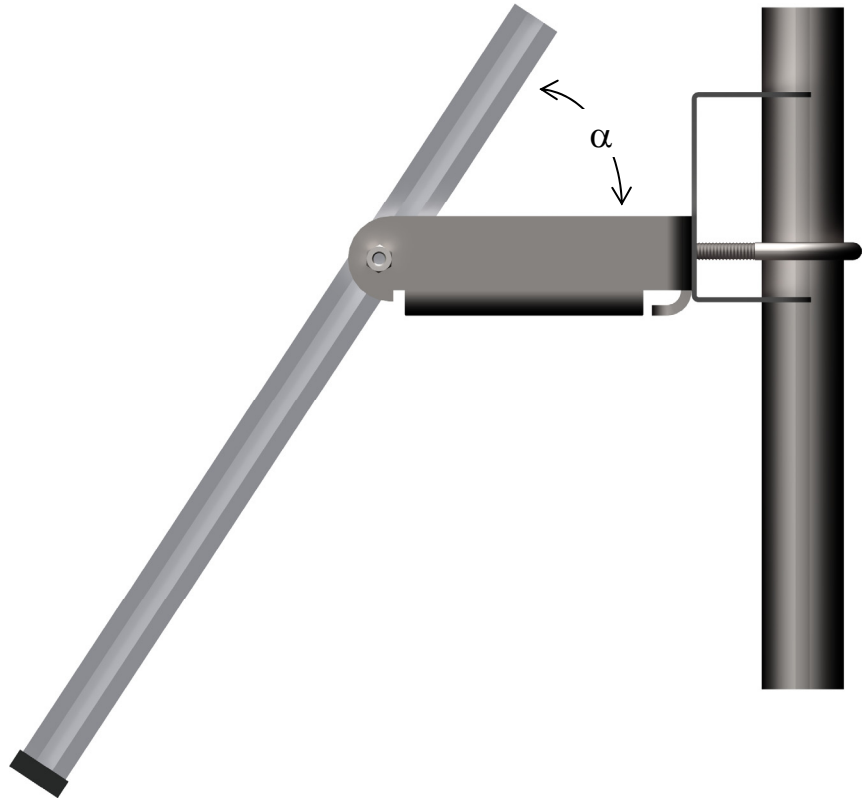

*FIGURE 2.7-1. Solar Panel Mounting and Cabling*
- a) Mount the solar panel to the tower using the mounting brackets as shown in Figure 2.7-1. Mount the solar panel to the tower so it faces south (northern hemisphere). Position it as high off the ground as practical, ensuring it cannot interfere with air flow or sunlight around the sensors. The solar panel should be oriented to receive maximum insolation over the course of the year. Suggested tilt angles (referenced to the horizontal plane) are listed below.